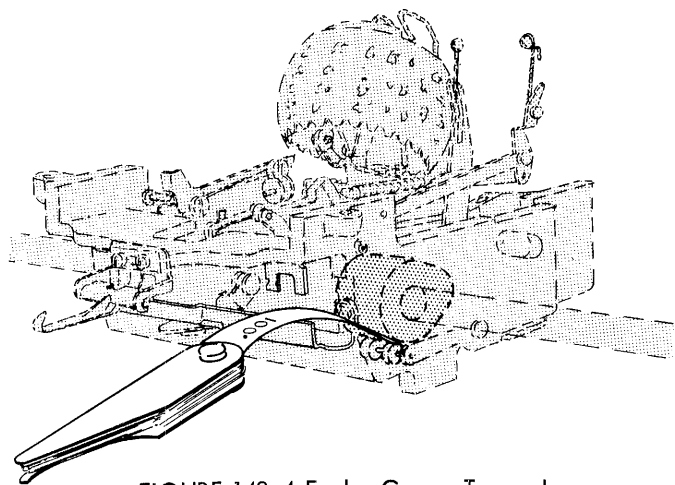

FIGURE 142.4 Feeler Gauge Trapped
- c. With the machine resting on its back, place a .001" or .002" feeler gauge between the print cam and the follower roller (Fig. 142.4). This can be accomplished by manually holding the rocker toward the platen while inserting the feeler gauge from the front of the carrier (to the right of the carrier pointer) just above the line lock bracket. With the gauge in position, allow the rocker to come back to rest. The feeler gauge should become trapped between the roller and the cam. Then, slowly turn the stop screw in until a minimum drag is felt on the feeler gauge as it is withdrawn.